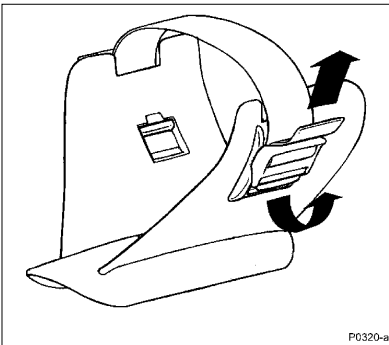

Figure 2.13 Tightening armrest strap
STEP 4 (Figure 2.13) Loosen strap by tilting the edge of the buckle out to release it from the armrest. Undo the velcro and pull the buckle outwards (towards yourself). Clip the buckle back into place and tighten the strap by pulling up (in the direction of the top arrow in Figure 2.13).